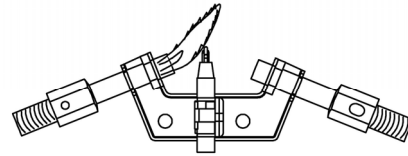

Figure 15 - Correct Pilot Flame Pattern
2. Inspect pilot flame and refer to Figure 15 and 16.
- Figure 15 shows a correct pilot flame pattern.